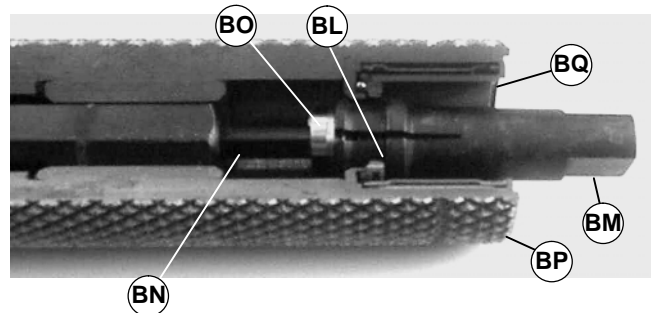

Figure 46
- Insert bearing removal tool (part # 25-05☆) (BM of Figure 46) into the pulley (BP) until shoulder (BL) seats against bottom of bearing (BQ).